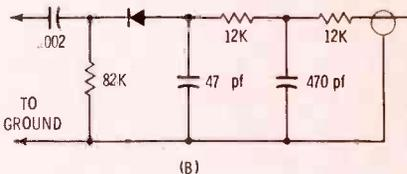

Fig. 3 Horizontal sweep produced is zonal sweep, instead of the adding the vertical input of the scope.
- All markers may be seen vertically in the conventional way, or the DISPLAY switch can be slid to the HORIZONTAL position to tilt the markers horizontally for better accuracy on steep-sided curves (Fig. 3).